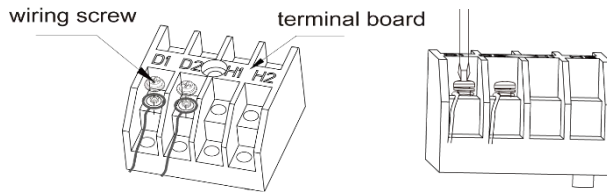

Fig. 5.3.1
- (1) Detach the electric box cover.
- (2) Let the Communication cable pass through the wiring through-holes.
- (3) Connect the communication wire to terminal D1 and D2 of indoor 4-bit wiring board, as shown in Fig.5.3.1.